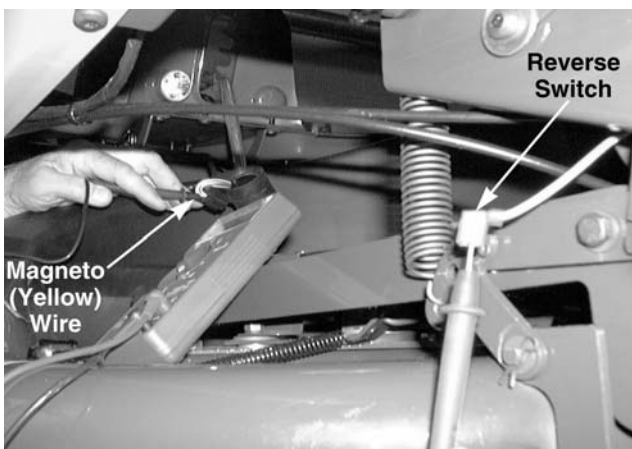

Figure 8-89.
–There will be **CONTINUITY**. See Figure 8-89.
23. Locate the relay connector with the yellow/black wire running into it. See Figure 8-89.